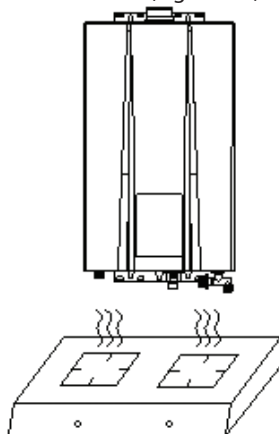

Figure 5.3
- Don't install the heater above the gas stoves or other heat sources (Figure 5.3).